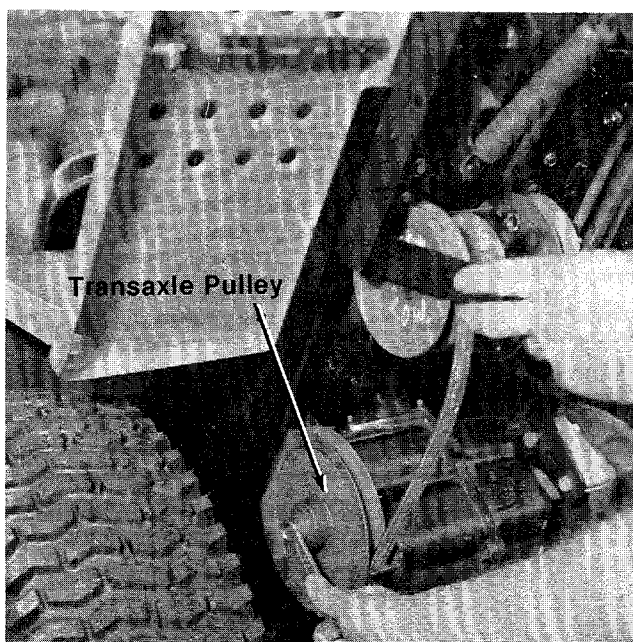

FIGURE 26.
6. Remove the center bolt and slide the transaxle pulley off. (See figure 26.)